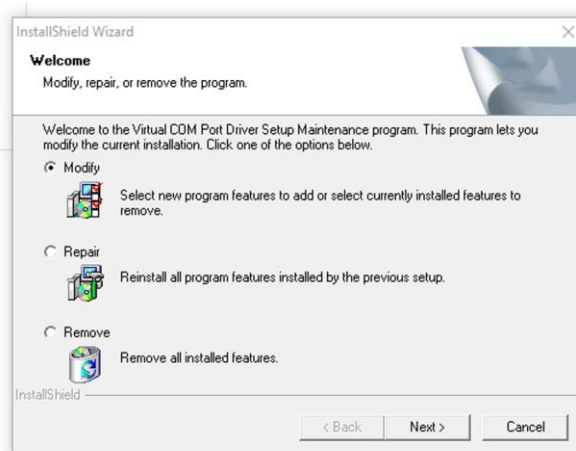

Figure A1.7 - Application setup wizard
1.6. The installation process of the virtual port will begin, which may take some time. In the installation wizard window that appears (Figure A1.7), indicate your actions: